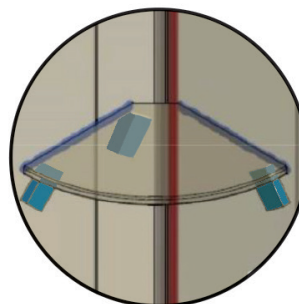

FIG 27.
- Carefully place shelf on stabiliser blocks and gently push into corner. Check the level and add additional blocks to top of shelf to hold in place while adhesive cures. (**FIG 27**).